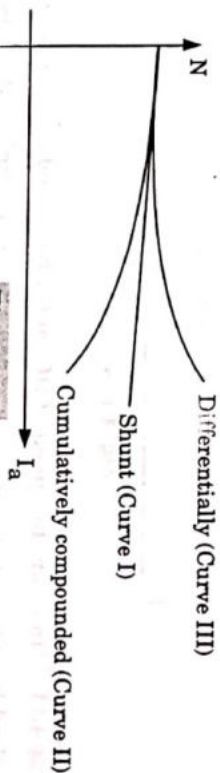

Fig. 4.10.2.
- Consider N - I_a characteristics of shunt motor as shown in Fig. 4.10.2 by curve I.
$\therefore$ Speed N decreases as $N \propto \frac{1}{\phi_T}$. This is shown in characteristics by curve II in Fig. 4.10.2.
$\therefore$ Speed N will increase, since $N \propto \frac{1}{\phi_T}$. This is shown by curve III in Fig. 4.10.2.